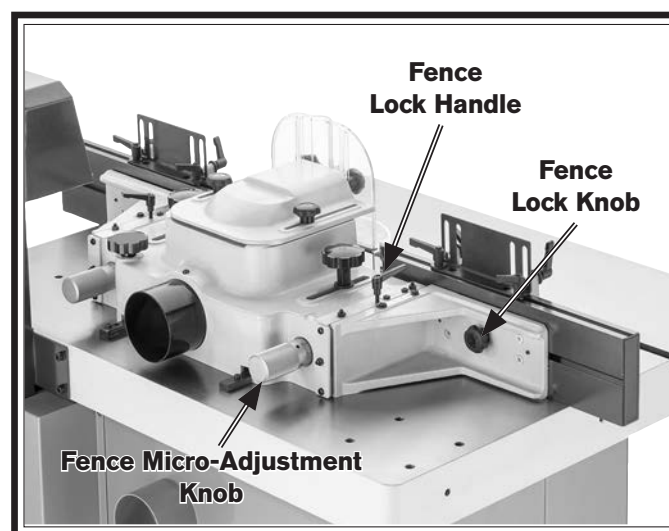

Figure 44. Individual fence controls.
1. Loosen fence lock handle (see **Figure 44**).
2. Turn fence micro-adjustment knob on same side (see **Figure 44**) until fence is set to desired position.
4. Loosen fence lock knob (see **Figure 44**) to move fence closer to or further from cutter. Tighten when desired position is achieved.